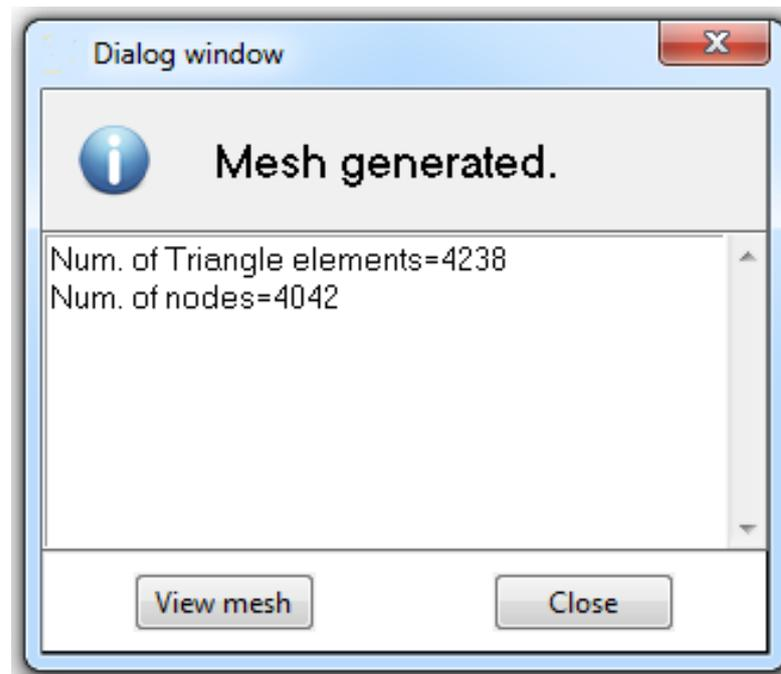

Figure 29. A window containing information about the generated mesh.
- 3 Select **Mesh->Generate Mesh**. When the mesh has been generated, a window appears with information about the mesh (Figure 29). The result is a non-conformal mesh composed of far fewer elements than the meshes generated in the previous section: about 5000 elements instead of the 20.000 needed to generate the conformal mesh.